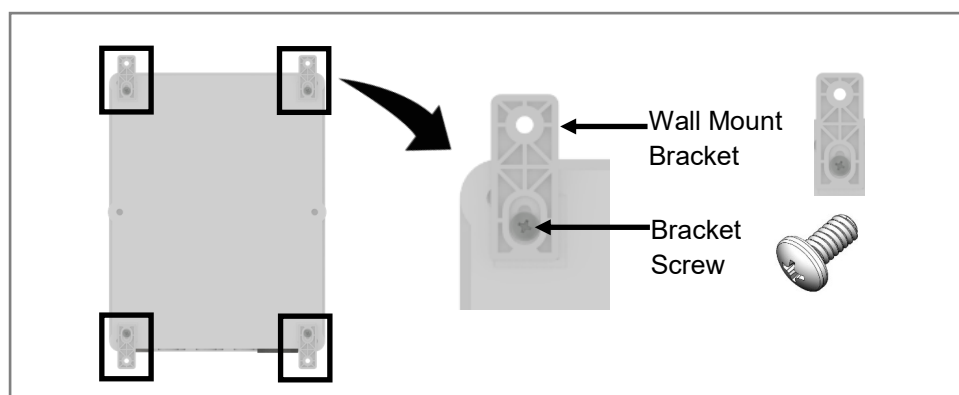

Fig 24. Install Wall Mount Brackets to BMS Gateway
1. The back of the BMS Gateway has four screw openings, one in each corner (Fig 24). For each corner, align the wall mount bracket with the screw hole and secure (using a Philips Head screwdriver) with the provided bracket screw (Fig 24). Do not overtighten.
Wall mount brackets can be installed vertically (as shown in Fig 24) or horizontally.